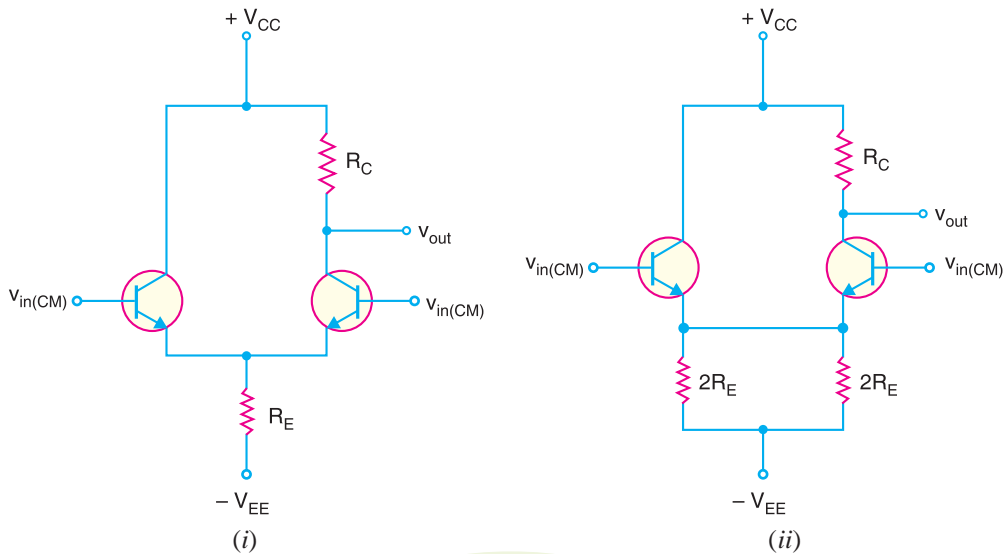
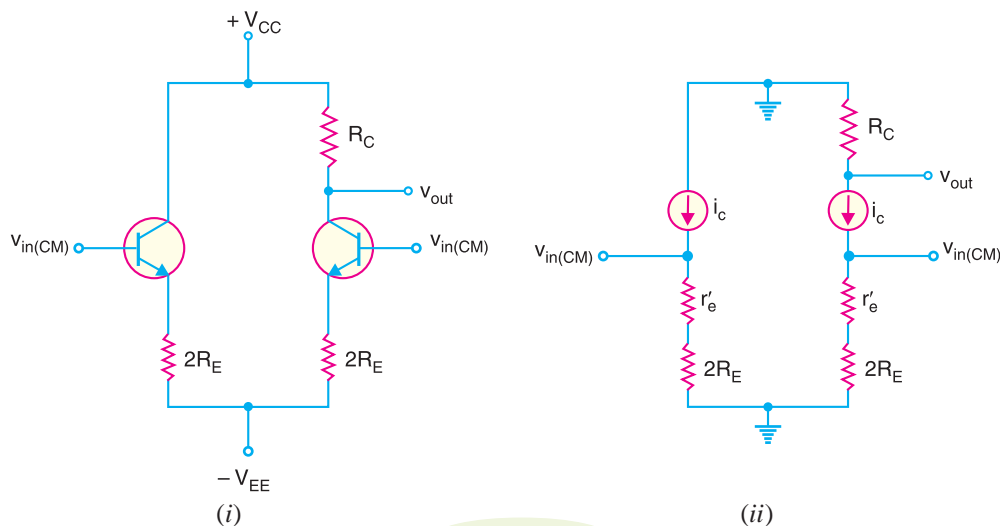

Fig. 25.34
Fig. 25.35
The common-mode signals are equal in amplitude and have the same phase. Fig. 25.34(i) shows the common-mode operation of a differential amplifier (DA). Note that the same input voltage, $v_{in(CM)}$ is being applied to each base. Ideally, there is no a.c. output voltage with a common-mode input signal. It is because a differential amplifier is designed to respond to *the difference between two input signals*. If there is no difference between the inputs, the output of DA is zero. In practice, the two halves of the differential amplifier are never completely balanced and there is a very small a.c. output voltage for the common-mode signal.
The circuit shown in Fig. 25.34(i) can be redrawn as shown in Fig. 25.34(ii). In this equivalent circuit, the two parallel resistances of $2R_E$ produce an equivalent resistance of R_E . Therefore, this equivalent circuit will not affect the output voltage. Assuming identical transistors, the two emitter currents will be equal and produce the same voltage across emitter resistors. Therefore, there is no current through the wire between the emitters. We can remove this wire and the circuit becomes as shown in Fig. 25.35 (i).
A.C. equivalent circuit. To get the a.c. equivalent circuit, we can reduce both supply voltages to zero *i.e.*, we ground each supply point. Replacing the transistors by their a.c. equivalent circuits, we get a.c. equivalent circuit of differential amplifier for common-mode operation as shown in Fig. 25.35 (ii). We can derive the voltage gain of an **unbypassed CE circuit*. Here we will use $2R_E$ in place of R_E .